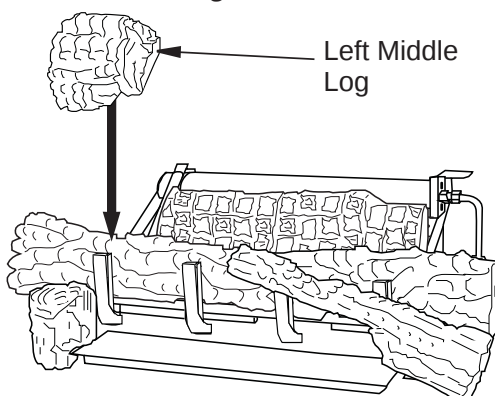

Figure 28 - Installing Left Middle Log
5. The left middle log has a groove on the bottom to sit on the chassis and has to sit on the tab on the back of the left front log as shown in **Figure 28**.